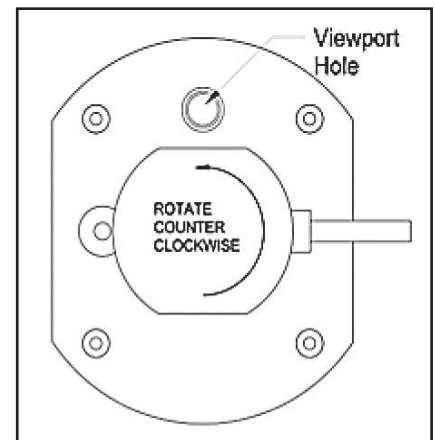

Figure 9 (Removal)
1. Rotate the Duo or UV-Aire ballast assembly counter-clockwise until it stops. (See Figure 9)